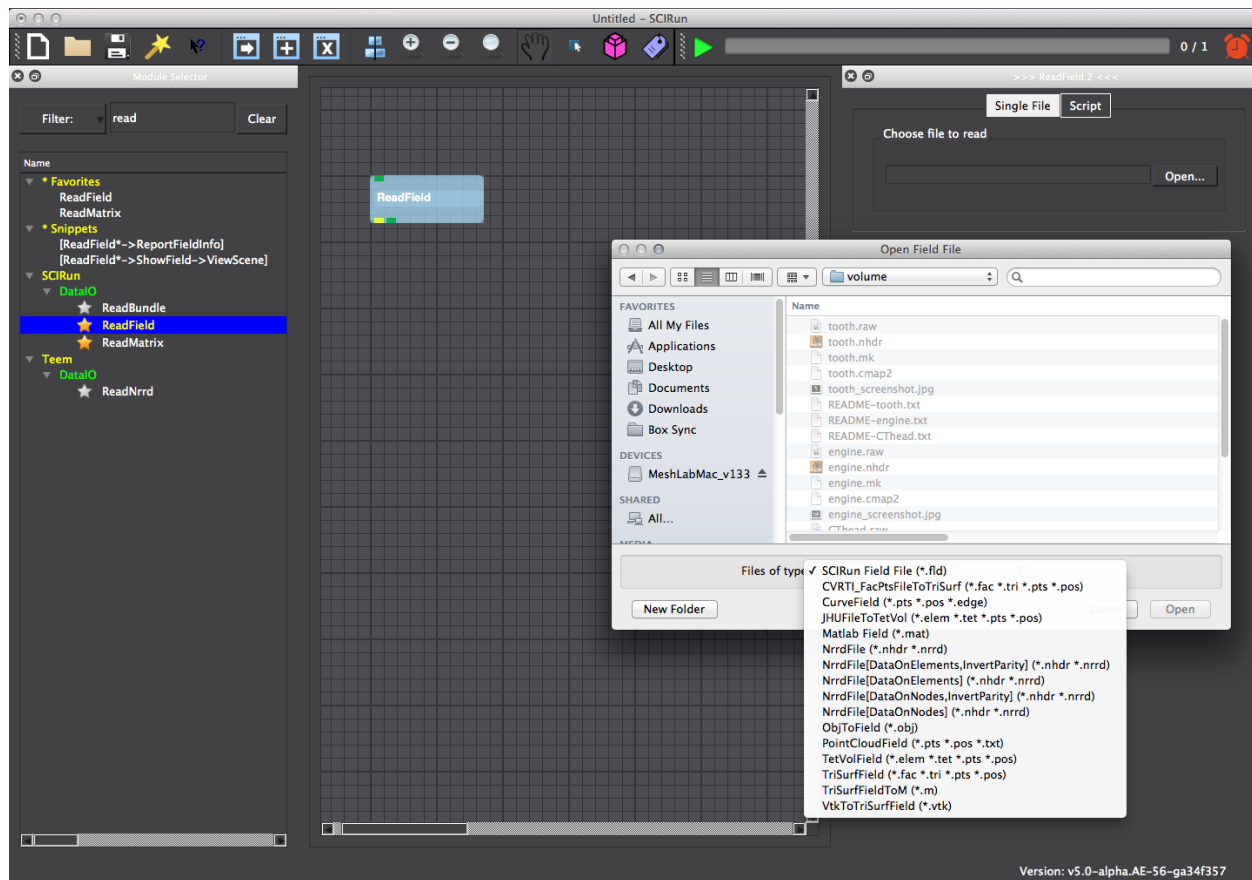

Fig. 2.3: The ReadField selector window can be used to select and read many data files.
Within the ReadField **user interface (UI)**, click the open button to navigate to the SCIRunData directory and select the dataset `volume/engine.nhdr` (Fig. 2.3). Notice that many different file formats can be imported by changing the file type within the ReadField selector window. When using Mac OSX El Capitan, press the options button in the ReadField selector window to change the file type. Change the file type to Nrrd file. The ReadField UI can be closed after selection to provide for a larger network viewing frame.